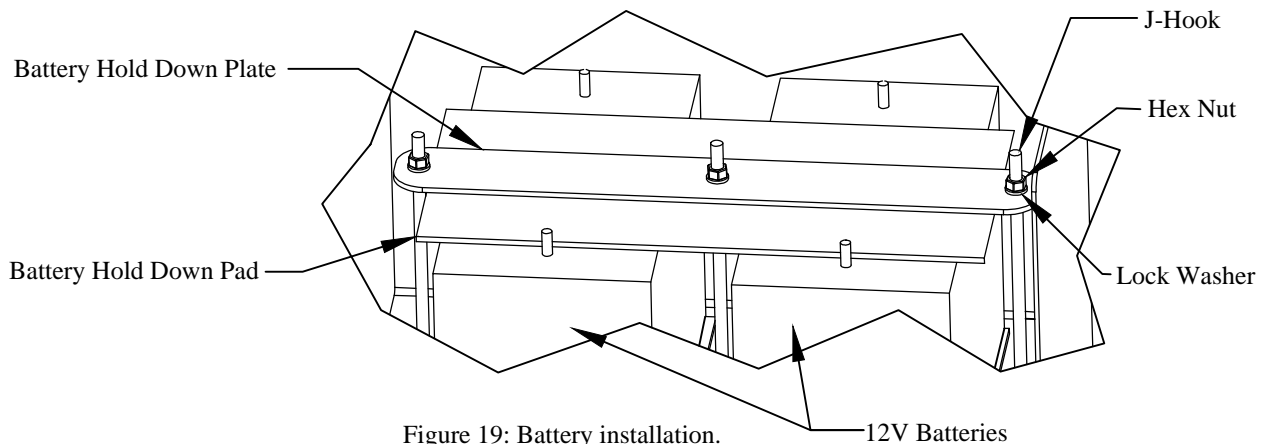

Figure 19: Battery installation. — 12V Batteries
5. **Tighten** down the hold down plate and rubber hold down pad with the three j-hooks, lock washers, and nuts (Figure 19).
10. **Connect** the appropriate fuse to one end of the remaining 11" positive (+) red cable using a 5/16 x 1/2" stainless steel hex bolt and nut (Figure 19).